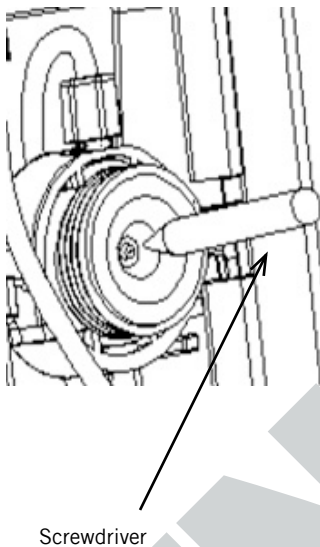

Fig. 13
1. Remove the old seal, for example with a small screwdriver, a toothpick or similar pointed object (Fig. 13).